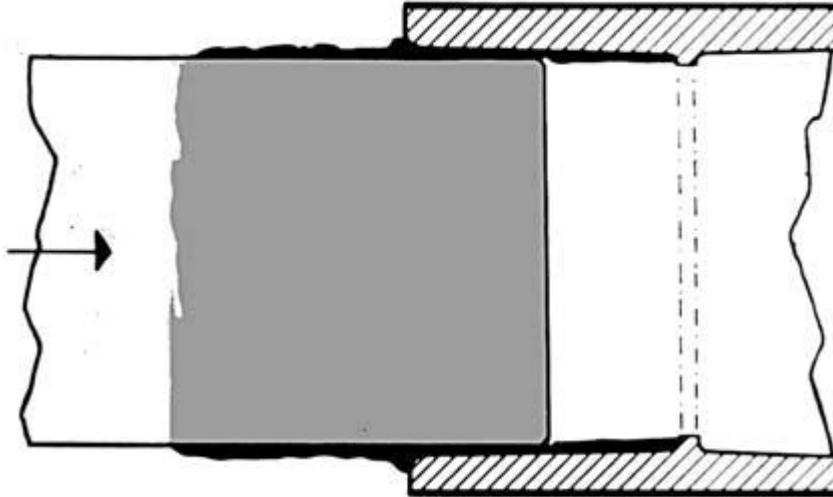

Figure 3: Assembly of Surfaces While They Are Wet and Soft
4. If the solvent cement coatings on the pipe and fittings are wet and fluid when assembly takes place, they will tend to flow together and become *one* solvent cement layer. Also, if the solvent cement is wet, the surfaces beneath them will still be soft, and these dissolved surfaces in the tight part of the joint will tend to fuse together (see Figure 3).